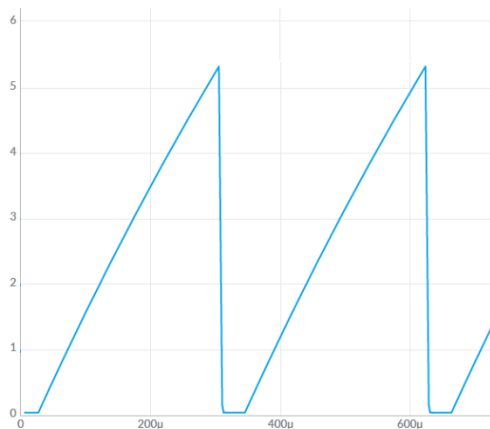
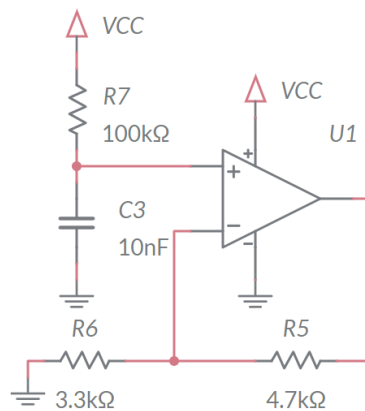

Figure 1: An example of the output that the Pseudo Ramp Generator creates.
Figure 3: The Pseudo Ramp Generator circuit.
Today we will explore the Pseudo Ramp Generator, a circuit that generates a ramp-shaped voltage waveform shown in Figure 1. Notice that the inclined portion of the voltage waveform, the ramp, is slightly curved. It is this slight curve, a deviation from a straight line, that puts the “Pseudo” in Pseudo Ramp Generator.
When plotted as a function of time, a ramp function has a constant slope measured as $\frac{\Delta V}{\Delta t}$. The term “Pseudo” is introduced into the name because the circuit that we will build, shown in Figure 3, does not have a constant slope, it changes slightly as shown in Figure 1. To understand this further, let’s start our analysis of this circuit.
We start our analysis by recognizing that the op amp configuration in Figure 3 is a non-inverting configuration. The resistors R5 and R6 form the feedback network.
1. Determine the gain of the non-inverting op amp in Figure 3.
2. Determine the time constant for the RC network on the non-inverting input of the op amp in Figure 3.
So the output of the op amp in Figure 3 is the familiar exponential charging of an RC circuit. But how on earth will this be used to generate a ramp shape shown in Figure 1? Well, if we limit the charging to the very beginning of the exponential function, then we may get a sufficiently straight line to approximate a straight line. In order to do this, we will need to limit the charging of the capacitor in Figure 3. We will do this by periodically removing the charge off the capacitor using the same technique used in the Deboo Integrator.